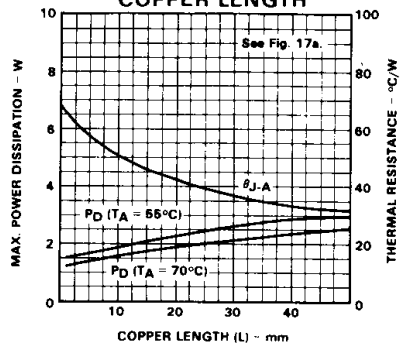

Fig. 12
In the latter case, Fig. 12 shows the maximum dissipated power (for $T_A = 55^\circ\text{C}$) as a function of the side of two equal square copper areas having a thickness of 35 μ (1.4 mils).
- 2) From *Fig. 12*, and knowing $T_{A(\max)}$, calculate copper length ("L")
From *Fig. 12* $L \cong 25$ mm
The *Fig. 12* shows that no heat sink is required if $T_A \leq 55^\circ\text{C}$.